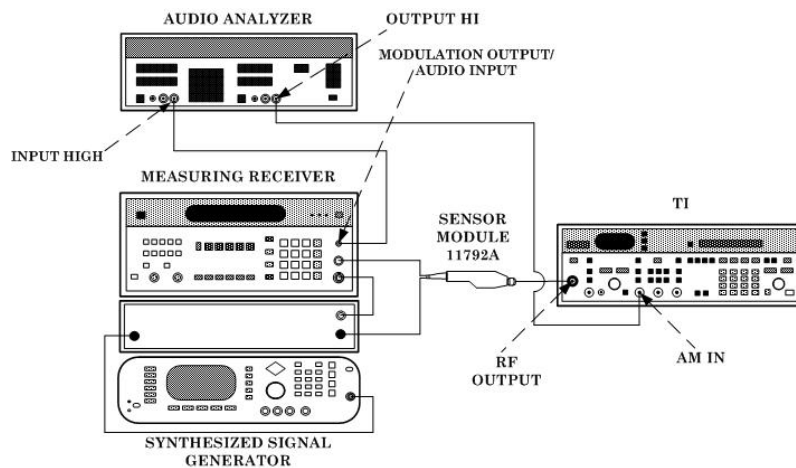

Figure 12. Amplitude modulation hookup.
- (1) Connect equipment as shown in figure 12 below.